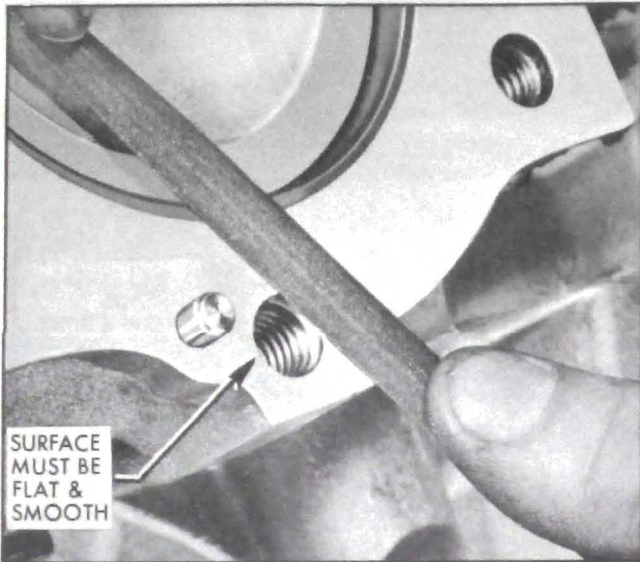

Figure 2-65—Smoothing Surface Around Insert
5. Make sure the surface is smooth, particularly if it is a gasket surface. Use a flat file and carefully smooth the surface around the repaired hole. The drilling and tapping operations may raise the metal, preventing proper fits unless the surface is smoothed. See Figure 2-65.